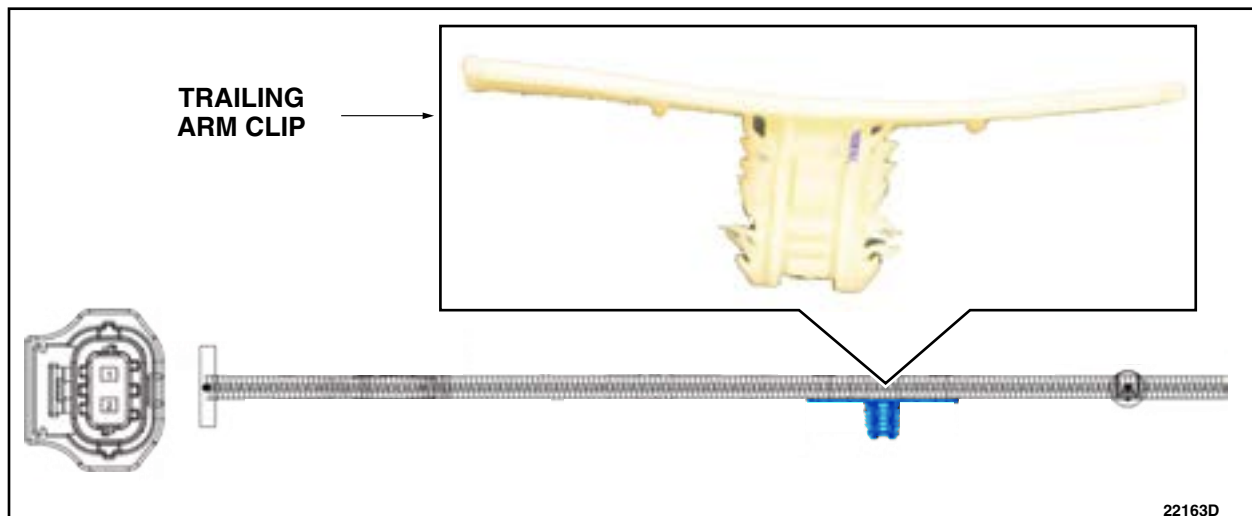

FIGURE 4
7. Remove the tape for 310mm (12.2 in). Remove and retain the trailing arm clip for reassembly. See Figure 4.